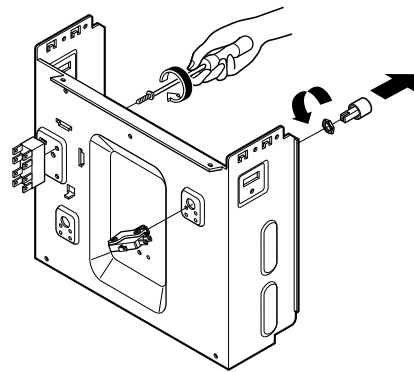

Figure 14
3. Unfasten the screw which fastens the terminal block. (See Figure 14)
3. Turn the nut left and take off the micro switch assembly. (See Figure 14)